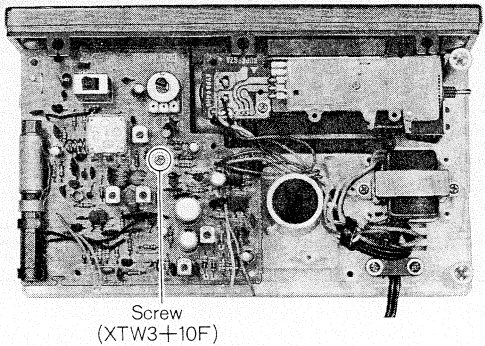

Fig. 3
- 2. Remove the one (1) screw for the PC board, as shown in fig. 3.